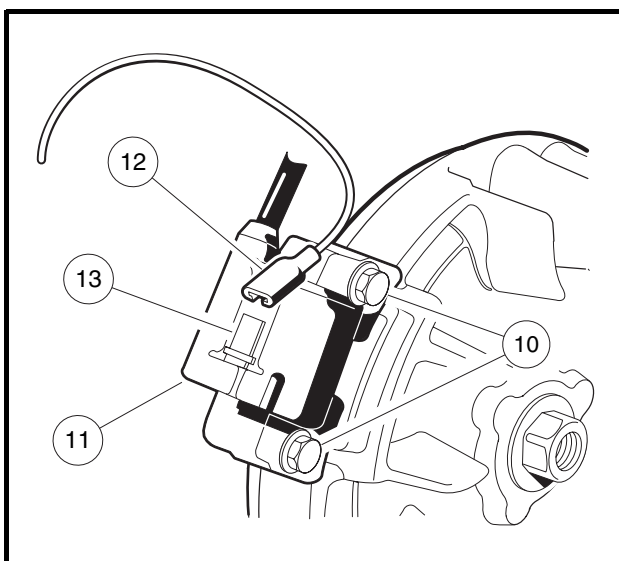

Figure 12-25 Black Wire and Ignition Coil
10. Disconnect the 18-gauge black wire (12) from the spade terminal (13) on the ignition coil (11) and remove the coil by removing two bolts (10) (**Figure 12-25, Page 12-24**).
11. Connect 18-gauge black (12) wire to the spade terminal (13) on the coil (**Figure 12-25, Page 12-24**).